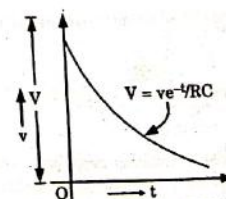

Fig. 2.6.2. Variation of voltage with time.
5. The variation of voltage v with time t is shown in Fig. 2.6.2.